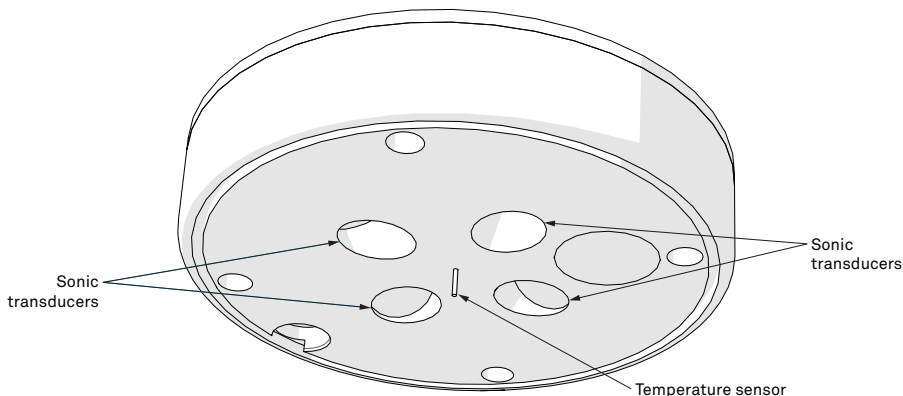

Figure 6 Temperature needle and sonic transducers
1. Make sure nothing is obscuring the temperature sensor or the sonic transducers shown in Figure 6 (cobwebs, leaves, wasp nests, etc.).
- **DO NOT** touch the temperature sensor needle (Figure 6).
- Avoid more than light pressure on the sonic transducers (Figure 6).
NOTE: Do not allow water to enter the ultrasonic sensors (Figure 6). Water may corrode the metal parts inside the sensors and ruin them. Do not touch the temperature sensor when cleaning because it is very delicate and can be damaged if pushed into the ATMOS 22 body.